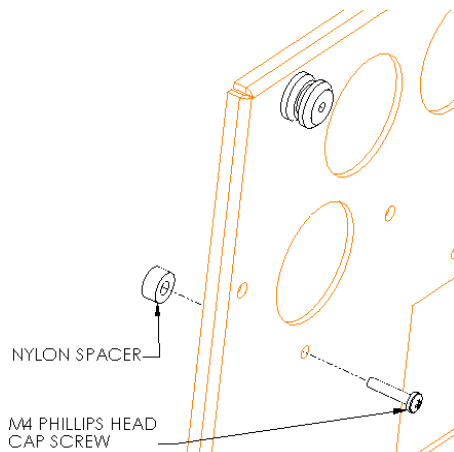
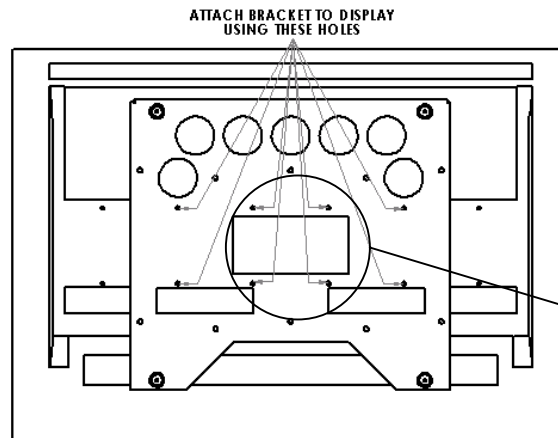

Figure 4
Figure 5
- Place Nylon spacers on mounting holes, aligning hole pattern on brackets with pattern on back of LCD Display (see Figure 4 & Figure 5). PSB-2300 uses 8 screws and spacers and PSB-2301 only uses 4.